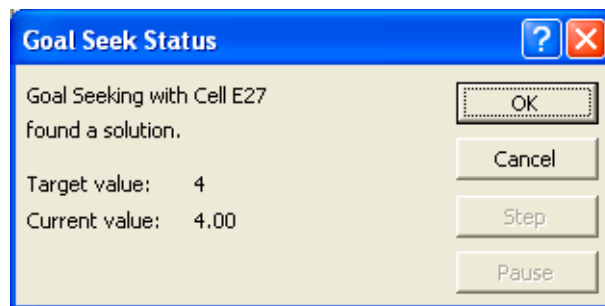

Figure 19 Goal Seek status
- 3 Click **OK**. The function then finds the inlet pressure that sends 4 mL/min to the MSD (Figure 19).